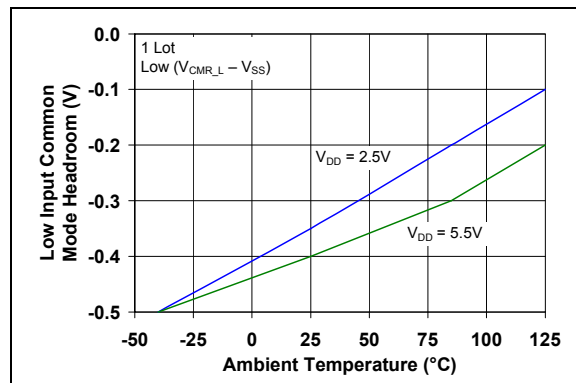

FIGURE 2-6: Low Input Common Mode Voltage Headroom vs. Ambient Temperature.
- 3:** See Figure 2-6 and Figure 2-7 for temperature effects.